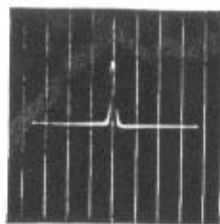
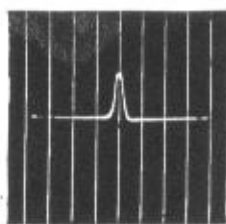
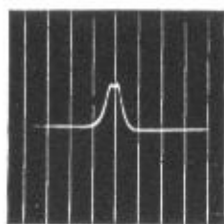

Fig 1
Fig. 2
Fig 3
**BAND PASS FILTER**—The band pass feature is equipped with variable selectivity control, which permits continuously variable band width from approximately 10 KC to 2 KC. Un-retouched oscillograms are shown above. Fig. 1 shows the minimum band width, while Figures 2 and 3 both show maximum band widths, but with different width screen sweep. The variable selectivity control permits setting of band width at any spot between these two points or widths; also the band pass feature has a rejection position, the oscillogram of which, is shown in Fig. 5. The vertical lines drawn over charts, except Fig. 3, indicate 10 KC per line. (On Fig. 3 the lines indicate 5 KC each to show flat top more plainly.) We highly recommend this filter to the phone man who must operate in the crowded amateur bands, and also to those DX'ers who require a high degree of selectivity plus high-fidelity. This type of filter also gives excellent single signal response for code work.